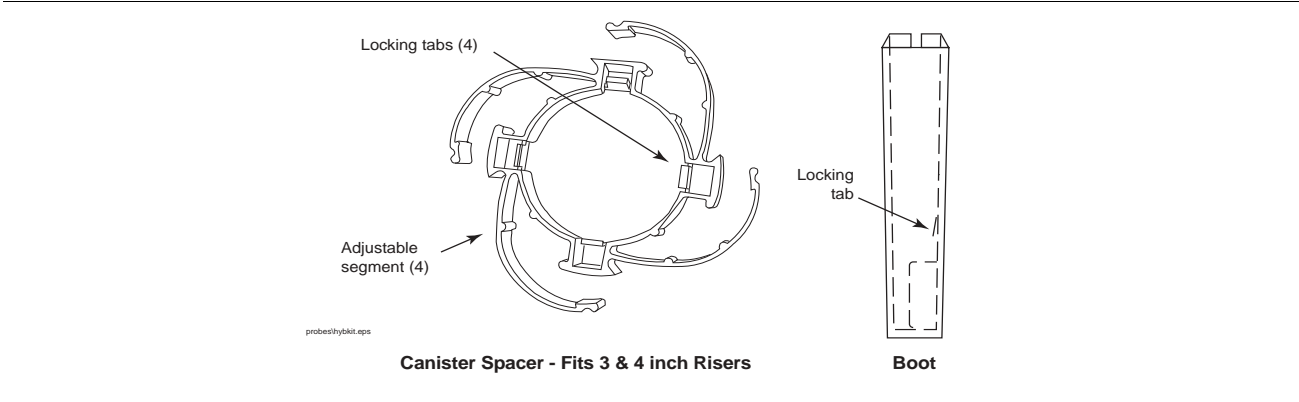
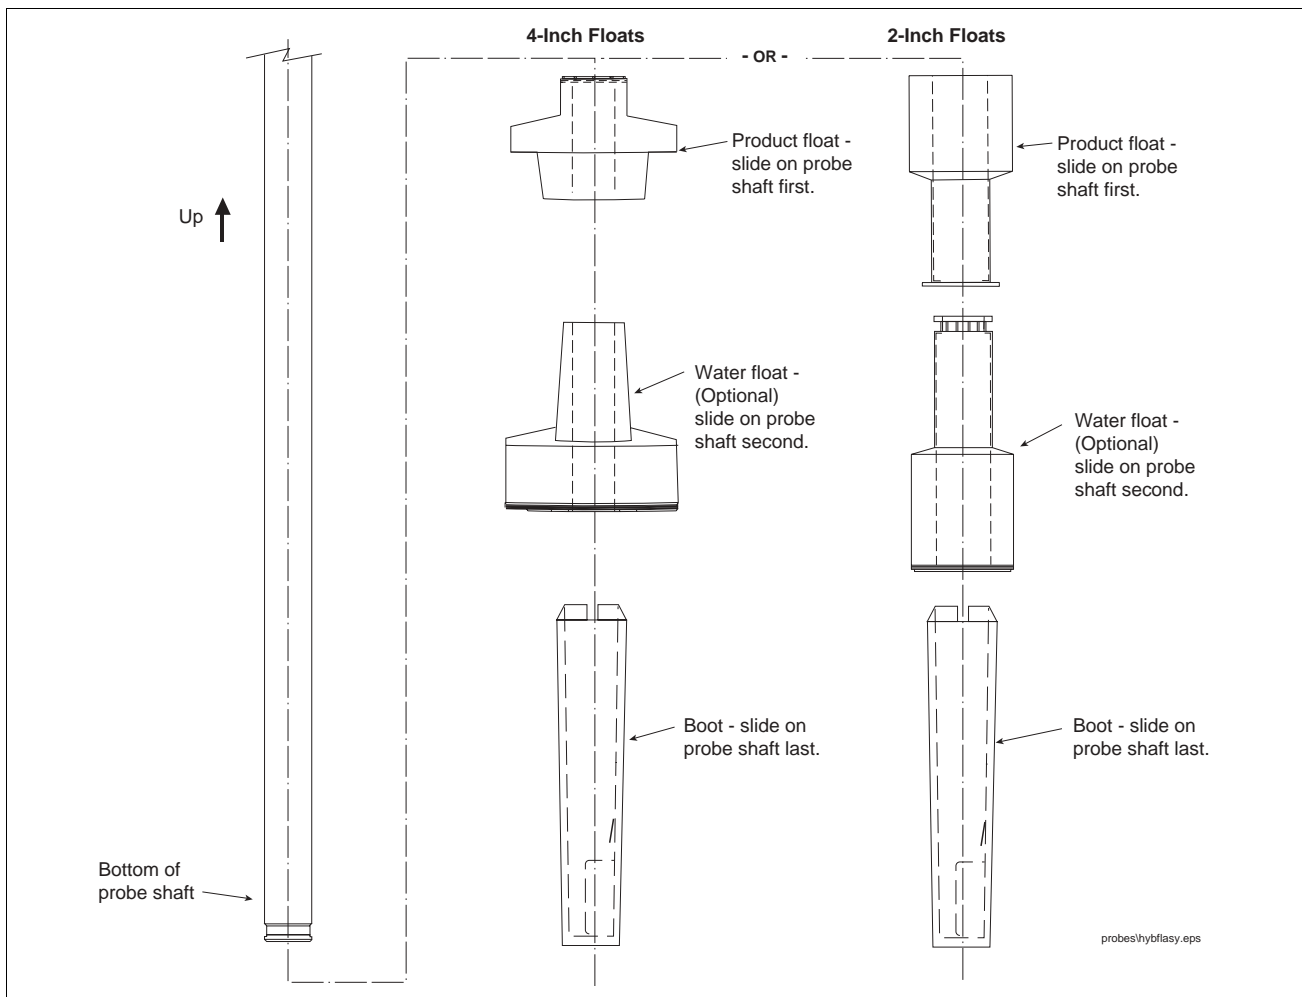

Figure 1. Canister spacer and boot from the installation kit
Figure 3. Probe float installation
1. Open the installation kit and remove the two canister spacers (see Figure 1).
5. Remove the boot from the old probe and discard it. Note that the new and old boots look alike but are **NOT** interchangeable. Remove the product float and water float (if present) from the old probe. Slide the existing float(s) and the **NEW BOOT** from the installation kit (see Figure 1) onto the Mag Retrofit probe shaft in the **exact** sequence shown in Figure 3.